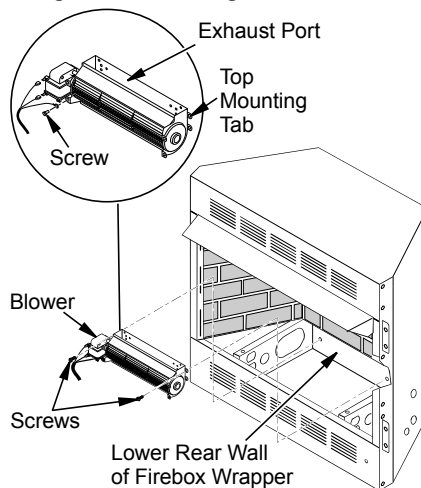

Figure 9 - Mounting Blower to Firebox
4. Attach green ground wire from power cord to blower housing using screw provided (see Figure 9). Tighten screws securely.
5. Place the blower against the lower rear wall of the firebox outer wrapper with the exhaust port directed upward. Align the holes in top mounting tabs of blower with holes in wall of wrapper (see Figure 9, page 4). Using 2 screws provided, mount blower and tighten screws securely.